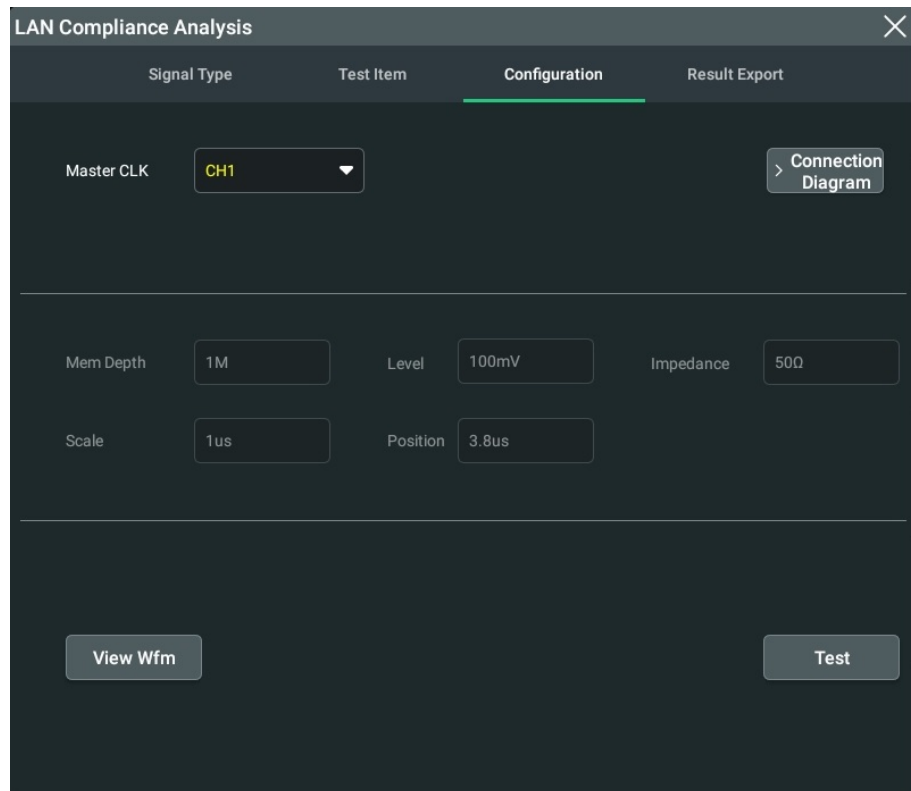

Figure 4.18 Test Configuration
4. After the specified signal type and test item are selected, the oscilloscope outputs a waveform based on the automatically set parameters such as level, scale, and impedance. Click or tap the **Configuration** tab to enter the "Configuration" menu. In this menu, you can view the parameters, as shown in *Figure 4.18*.